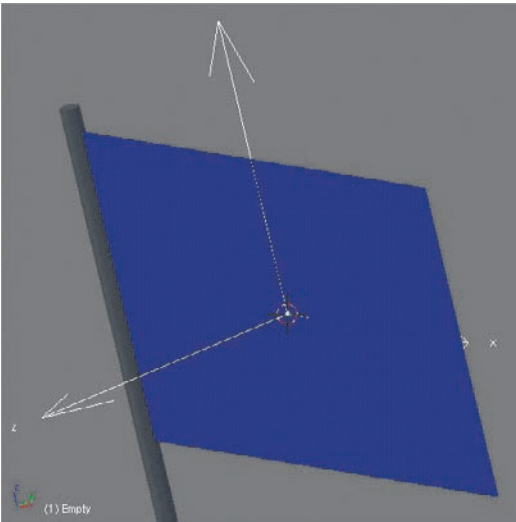

Figure 1.66 Adding an empty
5. The Displace modifier will be animated by means of an empty. Snap the cursor to the Flag object and add the empty. Clear the rotation on the empty by pressing Alt+R and scale the empty up by a factor of 3.5, so that it looks as shown in Figure 1.66.